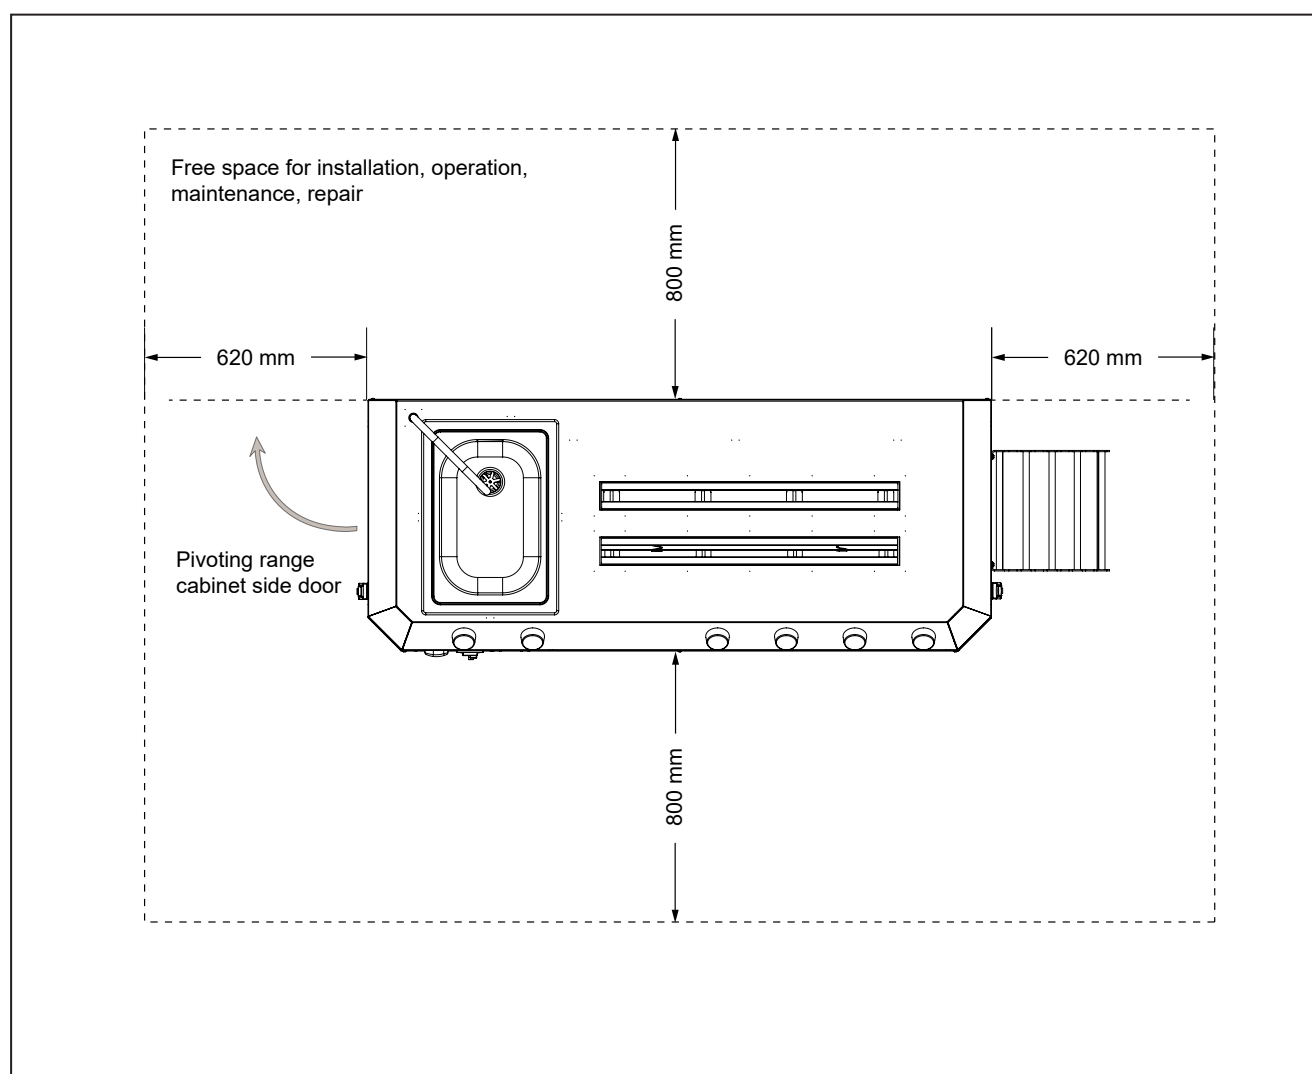

Fig. 4 - 3 Clearance around the MatCleaner
- clearance for access at the front and back (see Fig. 4 - 3).